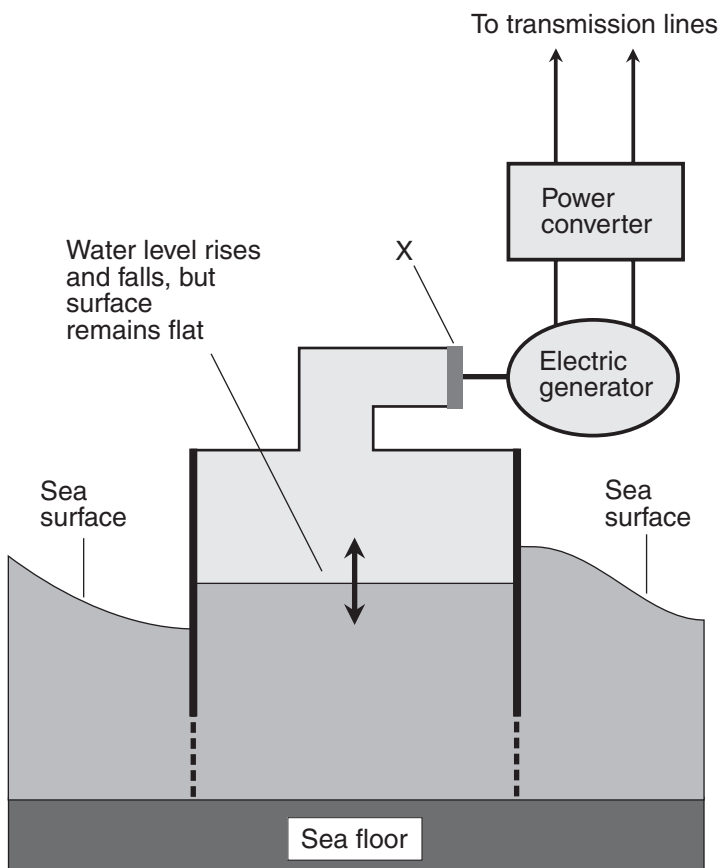

Figure Exam-6 Diagram for question 64.
64. Figure Exam-6 is a simplified functional diagram of a system designed to produce electricity from ocean swells. What type of device should be in the spot marked X?